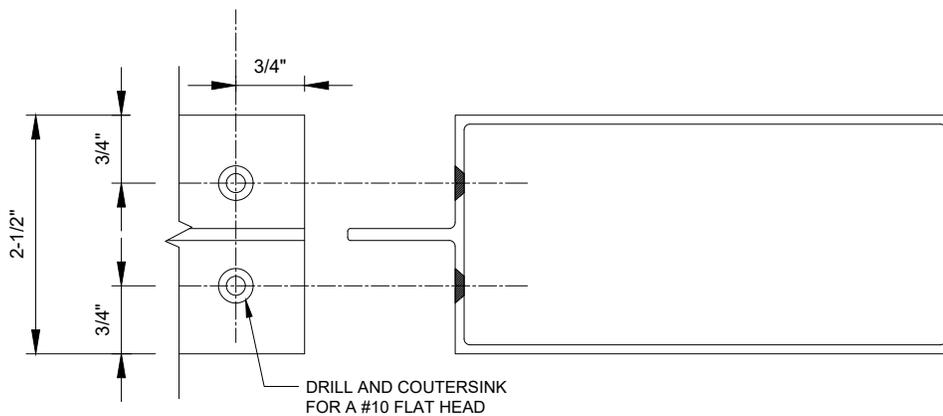

FIGURE 53
Fabrication at SSG horizontal - at each end of the SSG horizontal, drill #11 (.191 DIA.) clear hole for a #10 fastener and countersink (.375 DIA.) as shown on FIGURE 53. (2) at each end of member.